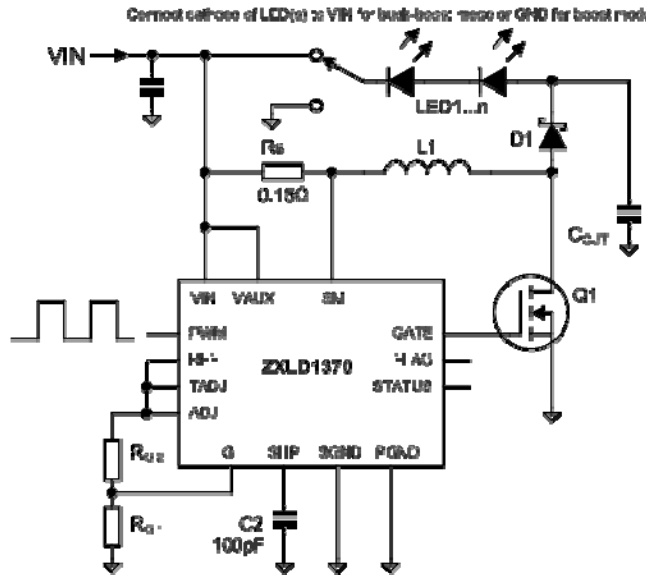

Figure 23 Boost and Buck-Boost Configuration
b) Boost and Buck-Boost modes – the most simple boost/buck-boost circuit is shown in Figure 23
The average current in the LED, I_{LED} , is always less than I_{RS} . The feedback control loop adjusts the switch duty cycle, D, to achieve a set point at the sense resistor. This controls I_{RS} . During the interval t_{OFF} , the coil current flows through D1 and the LED load. During t_{ON} , the coil current flows through Q1, not the LEDs. Therefore the set point is modified by D using a gating function to control I_{LED} indirectly. In order to compensate internally for the effect of the gating function, a control factor, GI_ADJ is used. GI_ADJ is set by a pair of external resistors, R_{G1} and R_{G2} . (Figure 23.) This allows the sense voltage to be adjusted to an optimum level for power efficiency without significant error in the LED controlled current.